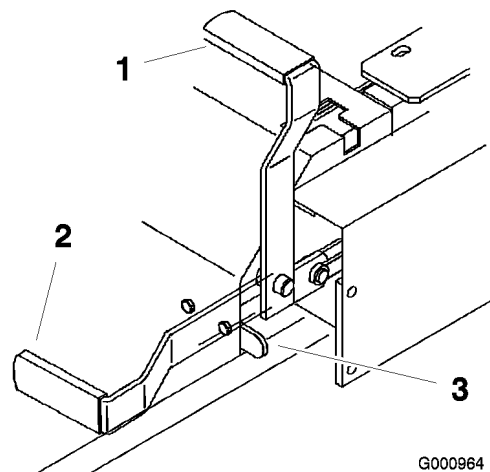

Figure 10
2. Pull up and back on the parking brake lever to set the parking brake (Figure 10). The parking brake lever should stay firmly in the engaged position.
Push forward and down on the parking brake lever to release the parking brake (Figure 10). The parking brake is disengaged and the lever will rest against the brake stop.